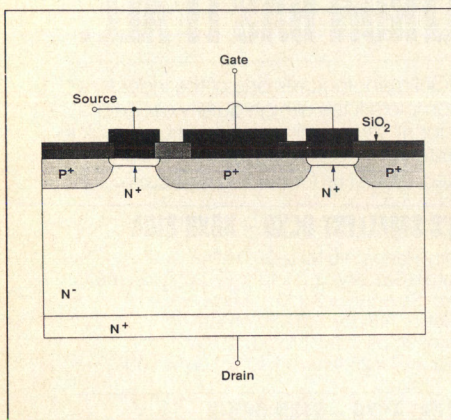

Figure 2. Simplified cross section of a static induction transistor.
The static induction transistor is a vertical, field effect device as shown in Figure 2. However, unlike the vertical MOSFET, the current conducted by the SIT is a strong function of both the gate and the drain potentials (3). Conse-